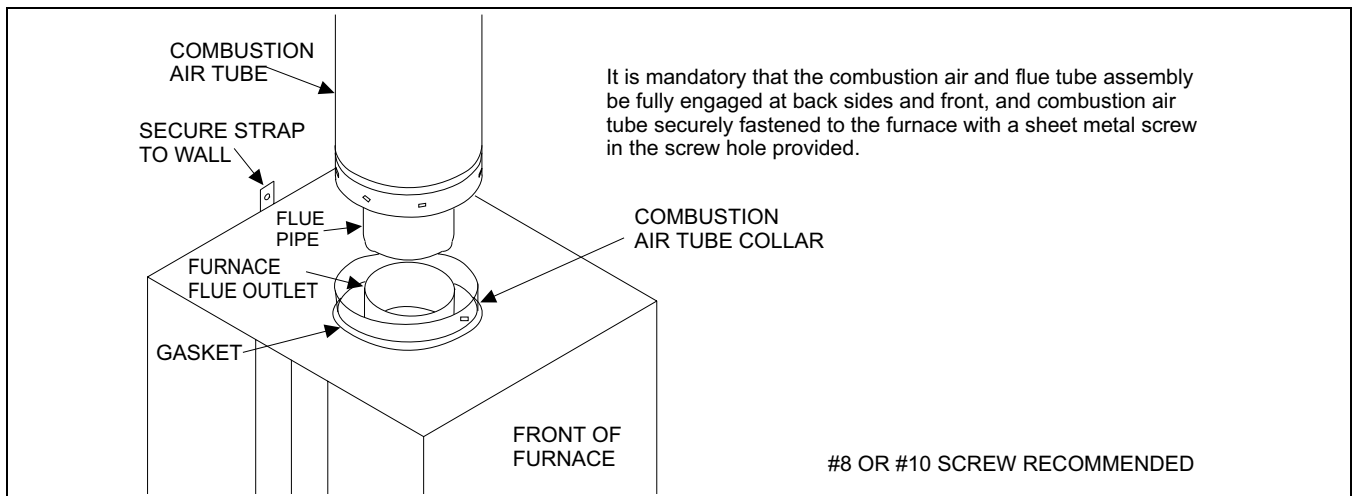

FIGURE 14 : Connecting Roof JAcK to Furnace
2. Pull the telescoping flue tube and combustion air tube assembly down from the roof jack. Slide the flue tube/ combustion air tube assembly down firmly over the furnace flue outlet and combustion air collar. Insure that the back, side and front of combustion air tube collar is fully engaged and is in contact with gasket. Fasten the combustion air tube to the furnace combustion air collar using a 1/2 inch sheet metal screw. (Screw hole provided in combustion air tube and furnace combustion air collar. See Figure 14.